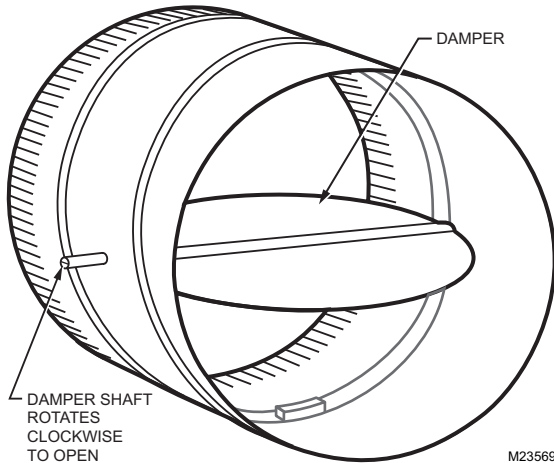
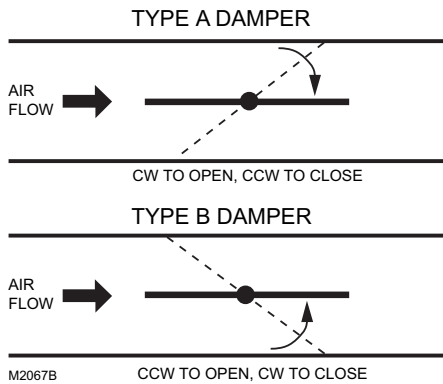

Fig. 2. Damper with 90 degree CW rotation to open.
Fig. 3. Determining the rotation direction (CW or CCW) for damper opening.
Determine the damper rotation and opening angle prior to installation. See Fig. 2 and Fig. 3 on page 3 for examples.
3. Determine the direction the damper shaft rotates to open the damper (CW or CCW) (see Fig. 3). Typically, there is an etched line on the end of the damper shaft that indicates the position of the damper. In Fig. 2, the indicator shows the damper open in a CW direction.
4. Determine the damper full opening angle (45, 60, or 90 degrees). In Fig. 2, the damper is open to its full open position of 90 degrees.